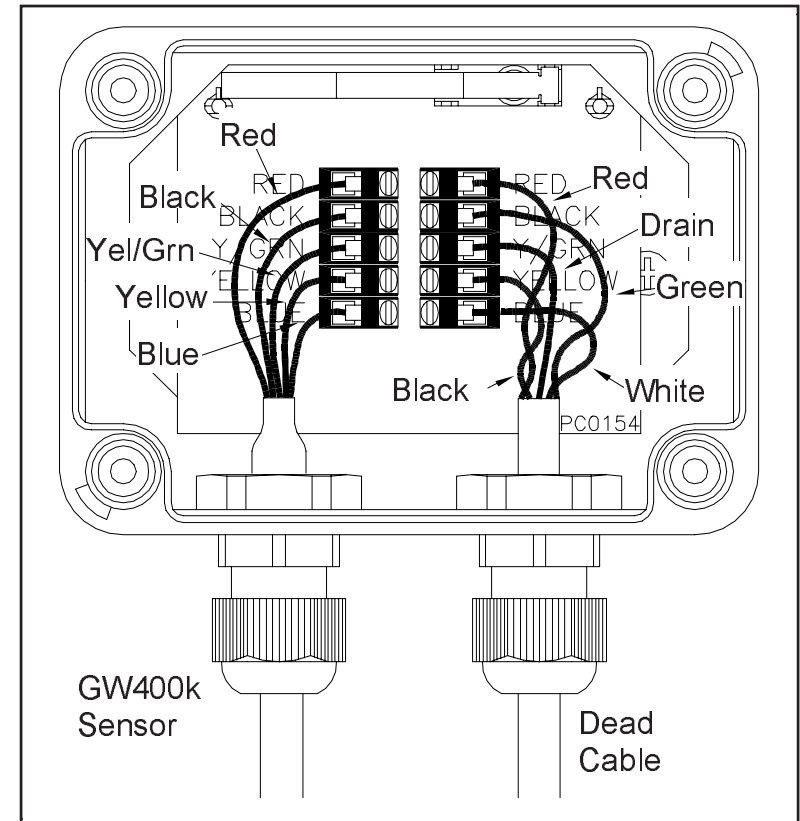

Figure 6
Adhere to this schedule at all times when jointing sensor to non-sensitive cable. Failure to comply with this will compromise the security of the system. See Figure 6.
3. Connect the sensor tails to the terminal blocks ensuring that the cable tail colours match the screen printing on the PCB. Figure 6 shows sensor